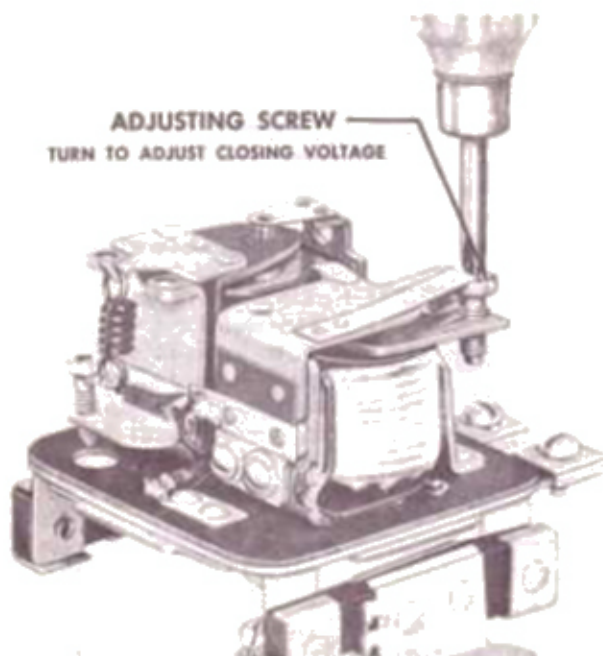

Figure 12—Adjustment of cutout relay closing voltage (1118300 and 1118700 series).
**CLOSING VOLTAGE (1118300 and 1118700 Series)**—Check closing voltage as described under Regulator Electrical Checks. Adjust closing voltage by turning adjusting screw (Fig. 12). Turn screw clockwise to increase spring tension and closing voltage, and turn counterclockwise to decrease closing voltage.